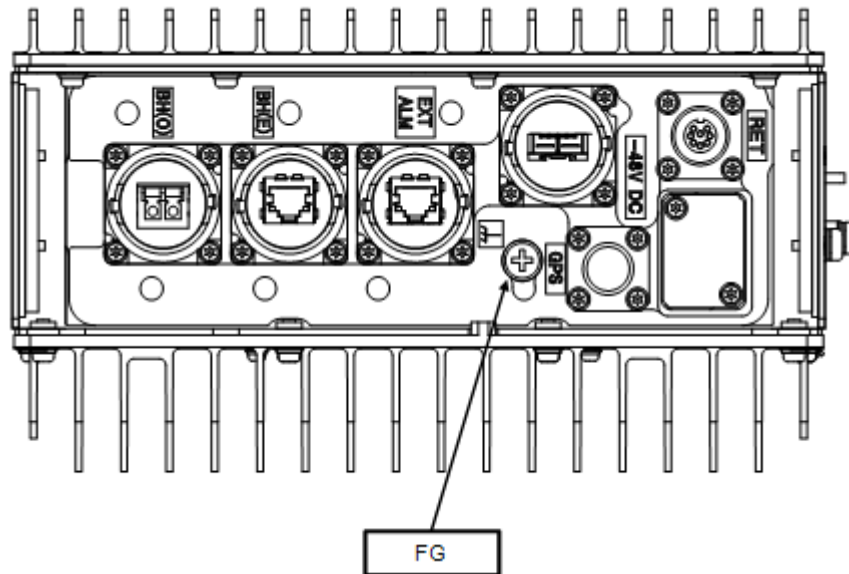

Figure 47 Bottom Face Cable Connection Position (FG)
6.6 FG Cable Connection (FG)
Figure 47 shows the position of the Frame Ground (FG) connector screw to connect the FG cable.